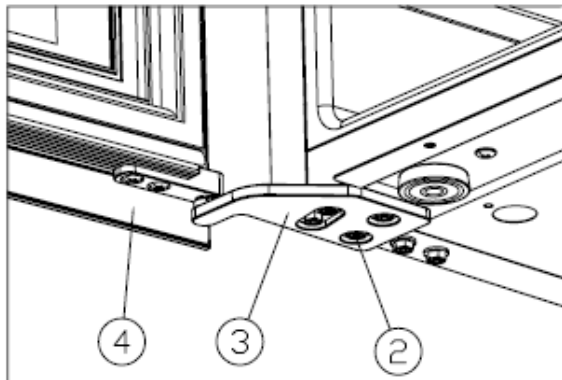

Figure 5
- ✧ Install the right upper hinge ③, and screw tight the M5\*16 screws ②. [Figure 5]